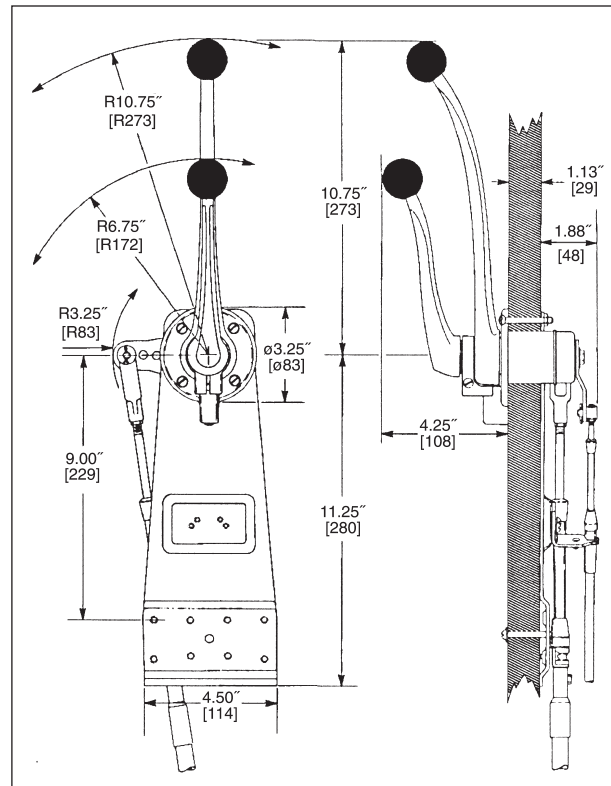

Figure 1
1. Adequate clearance must be provided for the Control Head Hand Levers to move through their full ranges (approximately 90 degrees). See Figure 1.